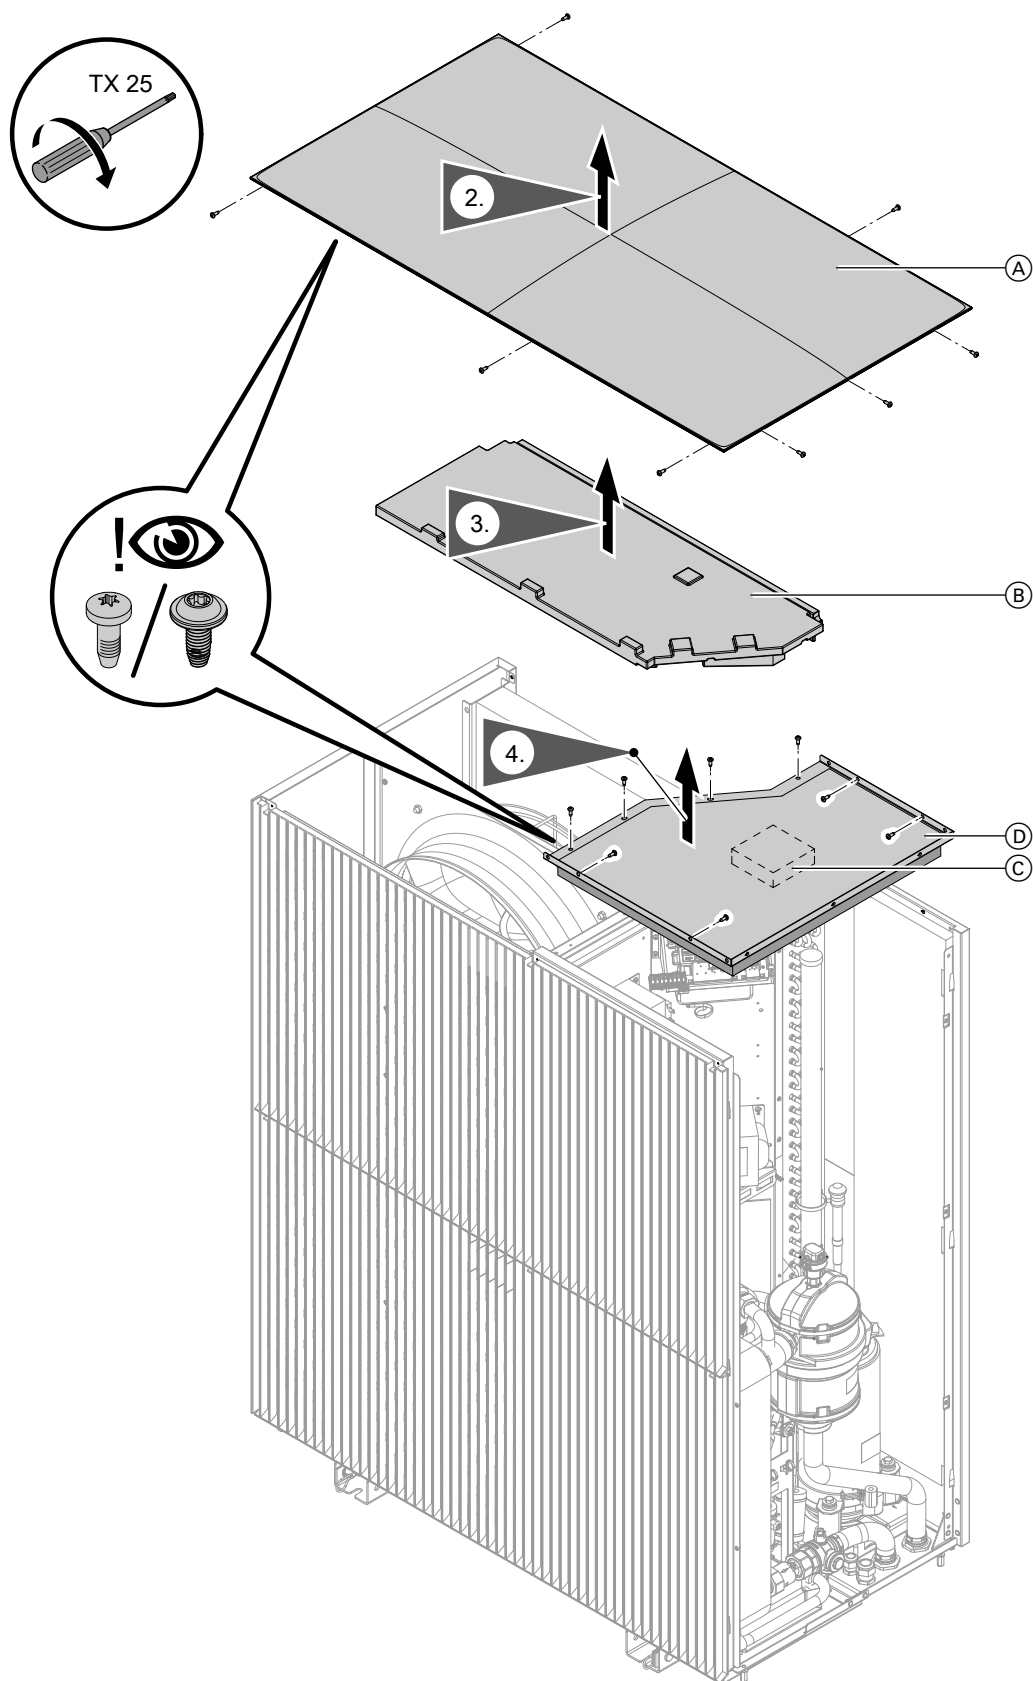

Fig. 93
7. Remove cover: See Fig. 93.
2. Remove cover: See Fig. 93.